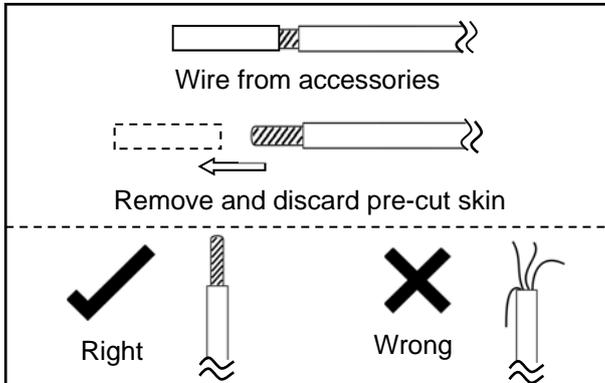

Fig. 1
1. Remove the pre-cut skin on the open end of wire from accessories. Wires MUST NOT be frayed. Wires must be connected as shown in Fig.1.